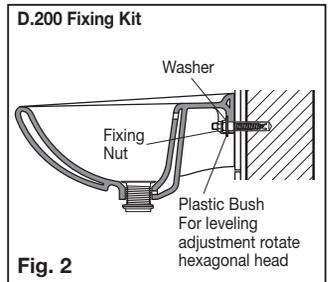

Fig. 2
- 5- Locate basin onto the Lag Screws on the wall. Insert plastic bushes, metal washers and fasten to wall with fixing nut. To complete assembly as detailed in **Figure 2**.
- 6- The Plastic Bush allows for leveling adjustment if required by rotating the hexagonal head bush, the basin will be slightly raised or lowered as shown in **Figure 2**.